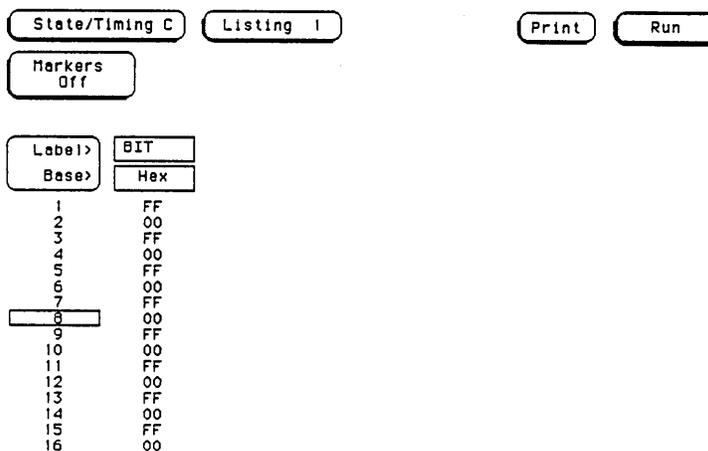

Figure 3-14. Listing Screen
- Touch Run. The Listing screen will be displayed and alternate F's and 0's will be displayed as in figure 3-14.